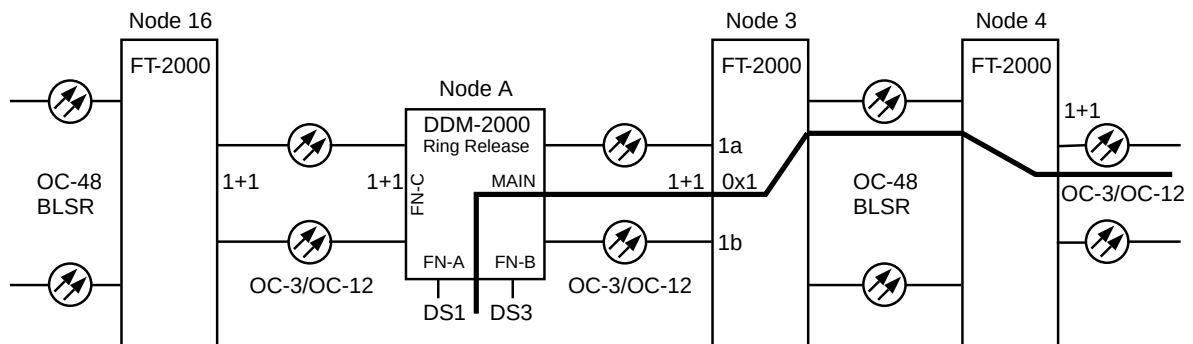

**Figure 1 – DDM-2000 OC-3/OC-12 Ring to FT-2000 1+1 OC-3/OC-12 Interface**
1. **Overview:** This procedure uses special provisioning to provision an FT-2000 OC-3/OC-12 low-speed interface (see Figure 1, Node 3) for 1+1 protection and connect it to a DDM-2000 OC-3, OC-12, or FiberReach system **ring** interface. This procedure is useful when a DDM-2000 ring release is needed for feature or compatibility reasons but interconnection with a 1+1 interface is also required. The FT-2000 can be any release that provides an OC-3/OC-12 low-speed interface. However, DCC connectivity requires compatible DDM-2000 and FT-2000 software releases. DDM-2000 OC-3 Release 15.0, or later, will provide interconnection of its main ring interface to a 1+1 OC-3/OC-12 interface without special provisioning of the FT-2000 low-speed interface.